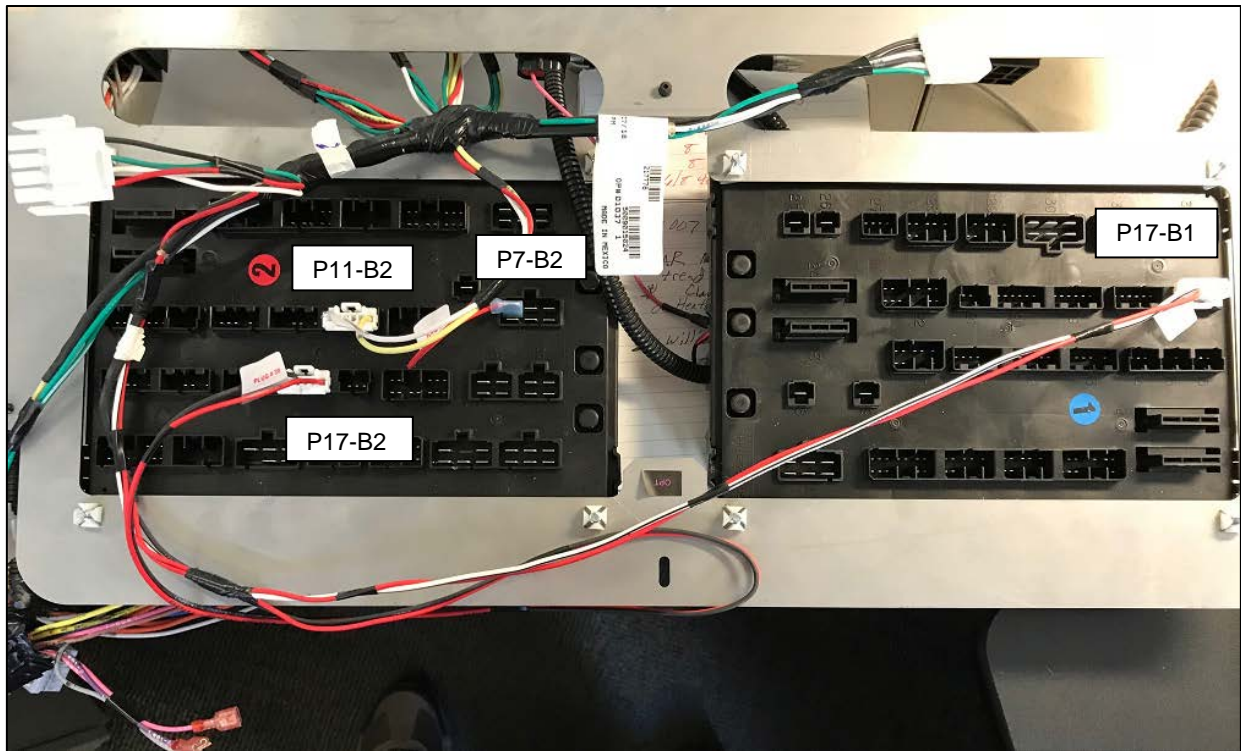

Figure 11: Rear of PC Boards Showing Connections, Only
7. Remove the existing harness and install the new harness TBB 217778. The old and new harnesses have the same connection points on the back of the boards and connecting harnesses. **Figure 11** shows the locations on the back of the PC board. The remaining plugs on the harness will be connected to harnesses that are not plugged into the PC boards.